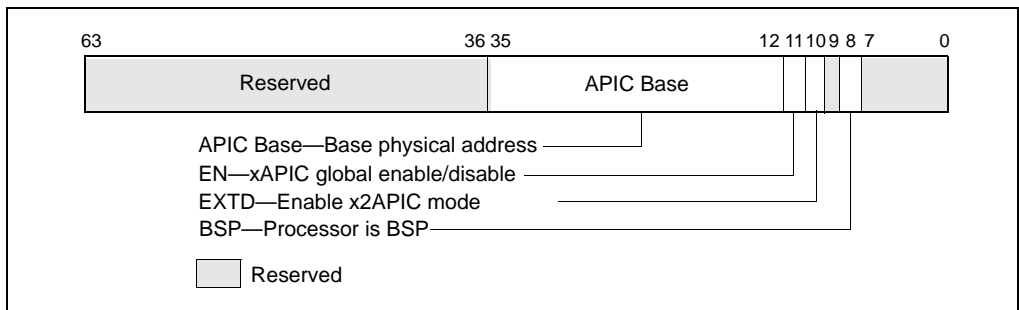

Figure 2-1. IA32_APIC_BASE MSR Supporting x2APIC
- System software can place the local APIC in the x2APIC mode by setting the x2APIC mode enable bit (bit 10) in the IA32_APIC_BASE MSR at MSR address 01BH. The layout for the IA32_APIC_BASE MSR is shown in Figure 2-1.